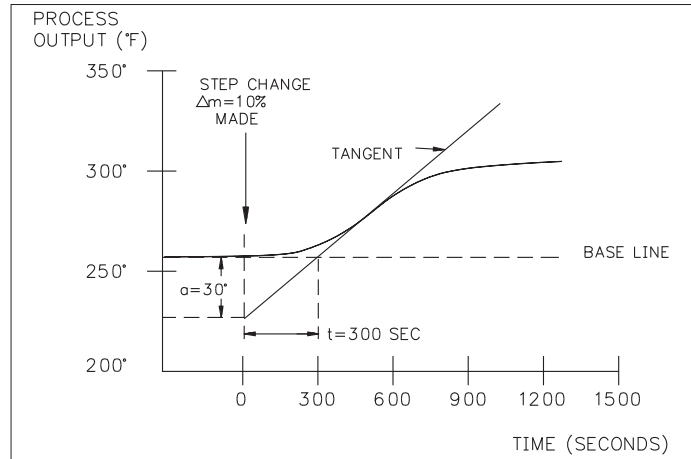

Figure 43, Process Reaction Curve
- 5) Record the response of the process. Use the information from the table to calculate the controller tuning values. The PID tuning parameters are determined graphically from Figure 43, Process Reaction Curve. Draw a vertical line at the moment the step change was made. Draw a line (labeled tangent) through the process reaction curve at its *maximum upward slope*. Extend this line to intersect the vertical line. Extend this line to intersect the vertical line.